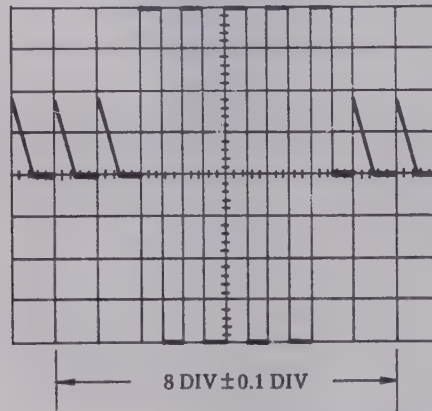
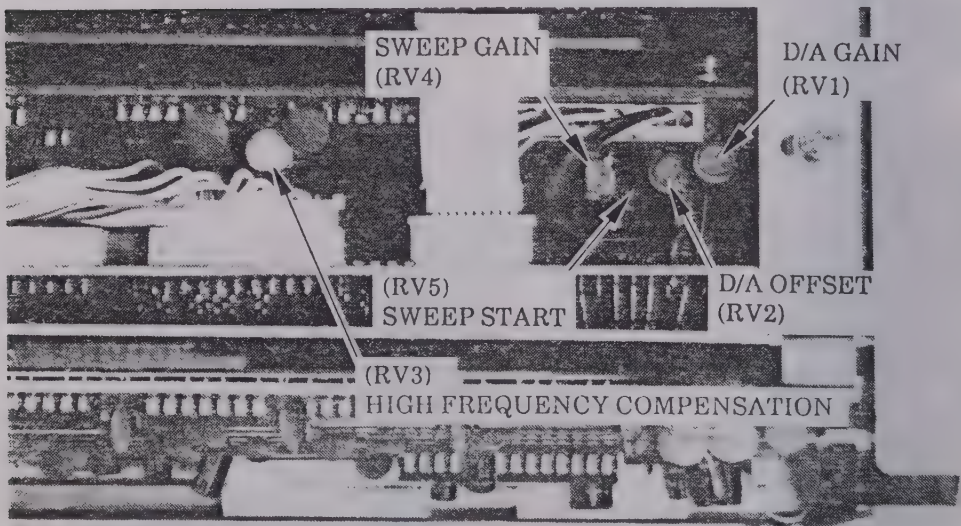
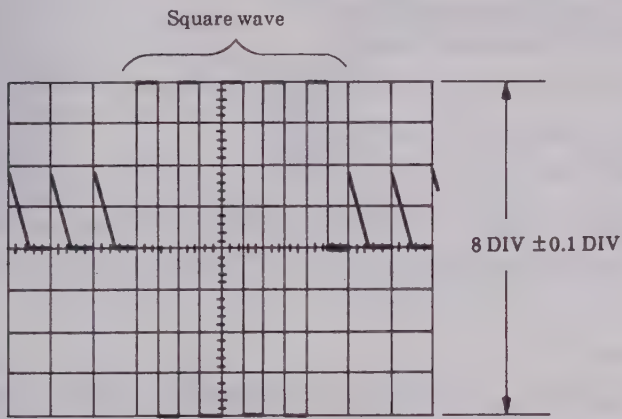
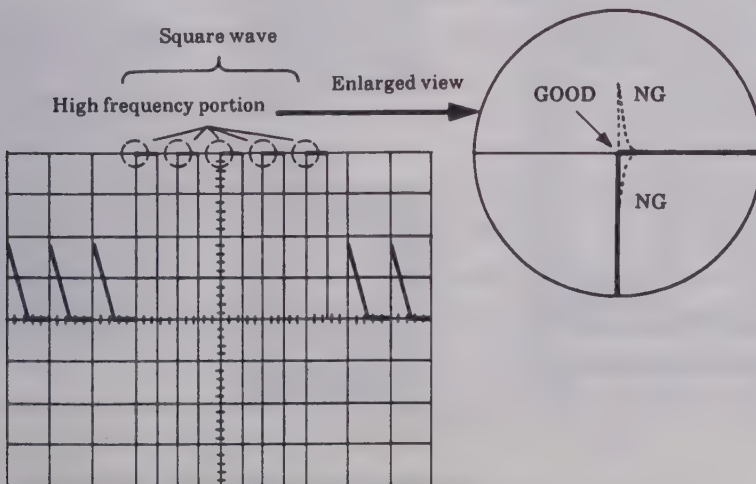

Fig. 4-36 AdjustING sweep gain
Fig. 4-37 Adjustment position of D/A GAIN (RV1), D/A OFFSET (RV2), HIGH FREQUENCY COMPENSATION (RV3), SWEEP GAIN (RV4) and SWEEP START (RV5)
Fig. 4-38 Adjusting vertical position and gain
Fig. 4-39 High frequency portion of square wave
- (1) Perform initial switching of the instrument in accordance with Table 4-3.
- (2) Align the starting point of the sweep with the first graticule at the left of the CRT screen. (Do not change this setting.)
- (3) Confirm that when "STORAGE/REAL" is set to "STORAGE", the starting of the sweep is within  $\pm 0.1$  DIV with the first graticule at the left edge. If it is not, adjust SWEEP START (RV5) on board A18 shown in Fig. 4-37.
- (1) Display the service waveform. [For details, see 1).]
- (2) Confirm that the clearance between A and B shown in Fig. 4-36 (2nd and 9th graticule) is within  $8 \text{ DIV} \pm 0.1 \text{ DIV}$ . If it is not, adjust SWEEP GAIN (RV4) on board A18 shown in Fig. 4-37.
- (2) Confirm that the amplitude of the square wave portion of the service waveform is within  $8 \text{ DIV} \pm 0.1 \text{ DIV}$ , as shown in Fig.4-38. If it is not, adjust D/A GAIN (RV1) on board A18 shown in Fig. 4-37.
- (2) Confirm that the vertical position of the service waveform is at the center of the CRT, as shown in Fig. 4-38. If it is not, adjust D/A OFFSET (RV2) on board A18 shown in Fig.4-37.
- (1) Display the service waveform. [for details, see 1).]
- (2) Confirm that the high frequency characteristics of the square wave portion of the service waveform (see Fig.4-39) are flat. If they are not, adjust HIGH FREQUENCY COMPENSATION (RV3) on board A18 shown in Fig.4-37.